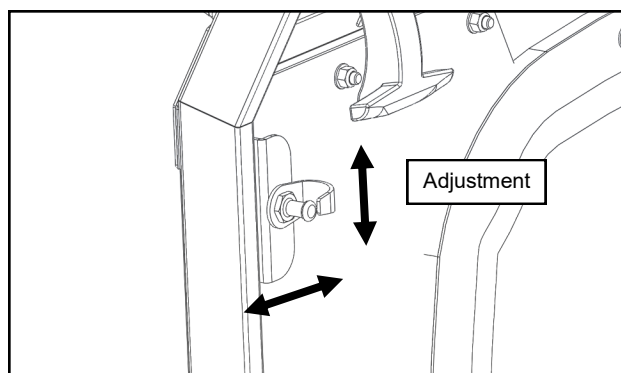

Fig. 18.4 (Striker Pin Adjustment)
- 18.4** Stand back and examine the alignment of the door with the roof and the A-pillar. You can adjust this by moving the striker pin up or down as shown in fig. 18.4 to help with alignment. *TIP: In the final step, the front of the door will drop a small amount the first time you open it. Set the front of the door a little bit higher so it aligns properly.* Adjust as necessary until you are happy with the alignment. Have an assistant sit inside the cab and once more carefully close the door like you did in step 18.2. Work with the assistant and tighten the hinge bolts.